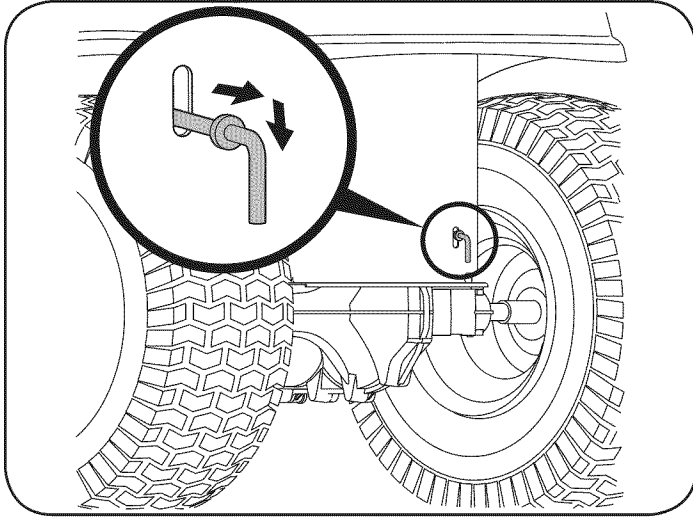

Figure 1
1. Locate the hydrostatic bypass rod in the rear of the tractor. See Figure 1.